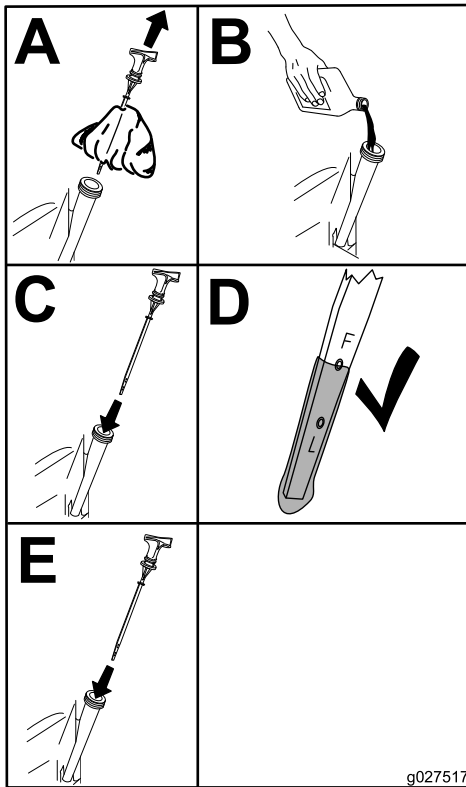

Figure 25
- Slowly pour approximately 80% of the specified oil into the filler tube (Figure 25).